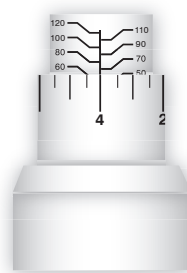

Figure 2
3. Turn lock ring until “4” on ring lines up with vertical line on tube. Wrench is now set to 64 ft/lbs. *See figure 2.*